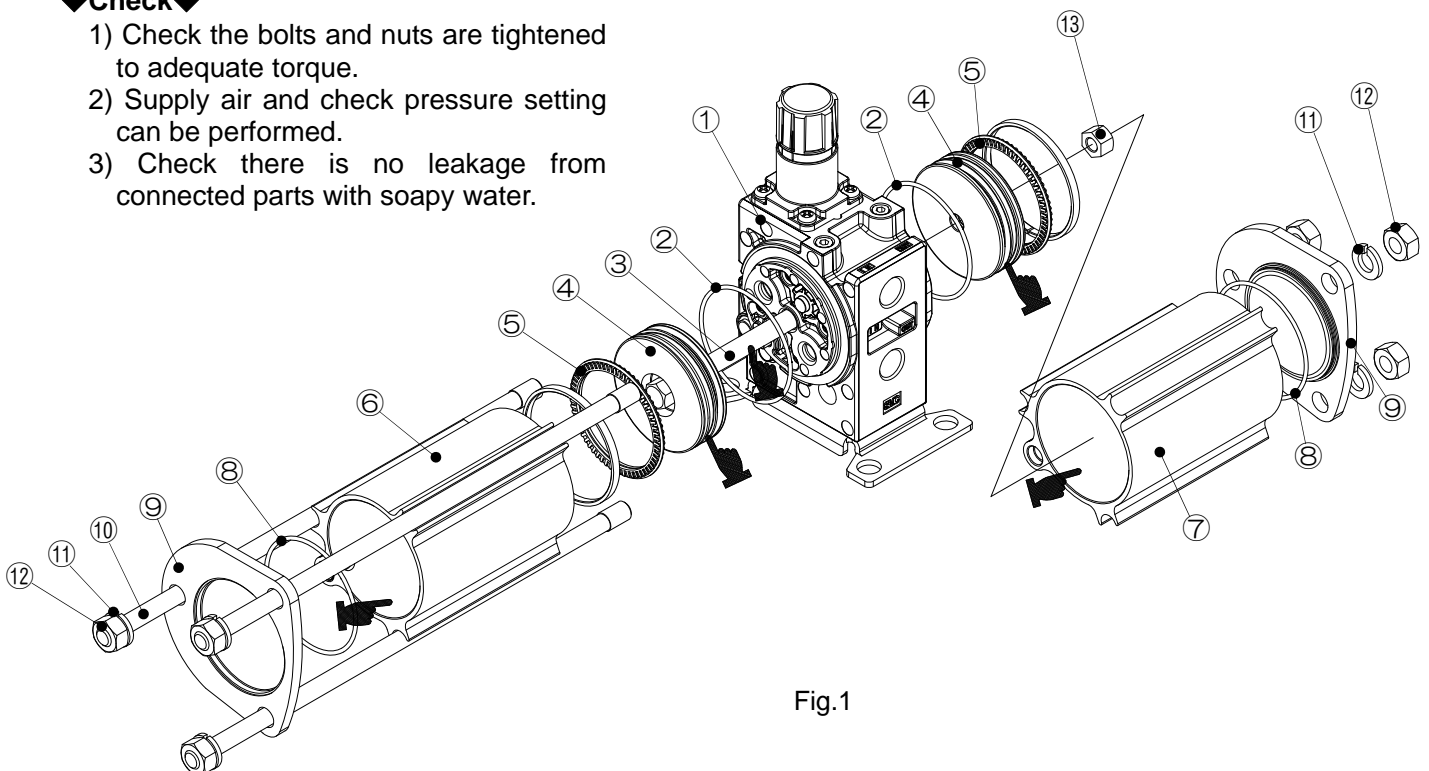

Fig.1
- 1) Apply grease to the part marked with  in Fig. 1.
- 2) Pass the piston rod ③ through the body ① and assemble the piston ④.
- 3) Apply one drop of Loctite to the thread of the piston nut ⑬ and tighten it with the socket wrench. (Torque 6.3Nm) **The piston is not fixed completely (idles) if it is assembled correctly. Do not tighten it over necessary torque.**
- 4) Mount the O-rings ② to the right and left sides of the body and assembly the cylinder tubes ⑥ and ⑦. **It should be noted the cylinder tube assembled is different for the right and left sides.**
- 5) Mount the O-rings ⑧ to the side covers ⑨ and assemble the side covers to the right and left of the cylinder tubes ⑥ and ⑦.
- 6) Pass through three tie rods ⑩ and tighten them with the hexagon nuts ⑫ and spring washers ⑪. (Torque 12.3Nm)